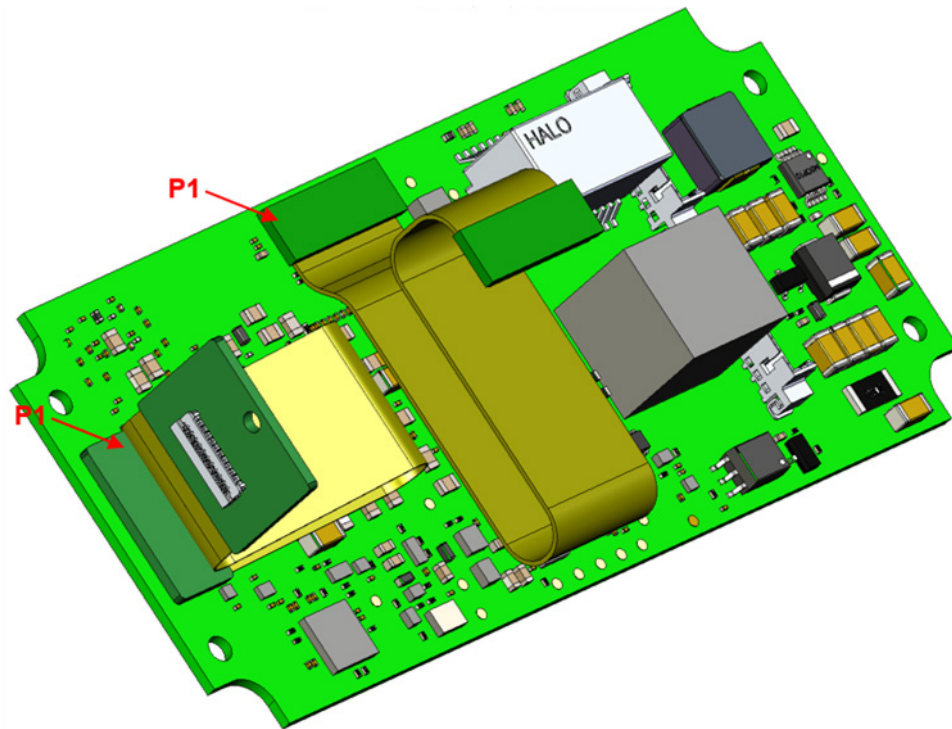

Figure 10 – Connecting Interposer Cables to FRAMOS D4 Visual Processing Board
**Caution:** Care should be taken when connecting RGB and Depth Interposer cables to FRAMOS D4 Visual Processing Board, as the wrong connection, position, or orientation, can cause permanent damage to the device. The correct cables position and orientation are shown in the Figure 10.